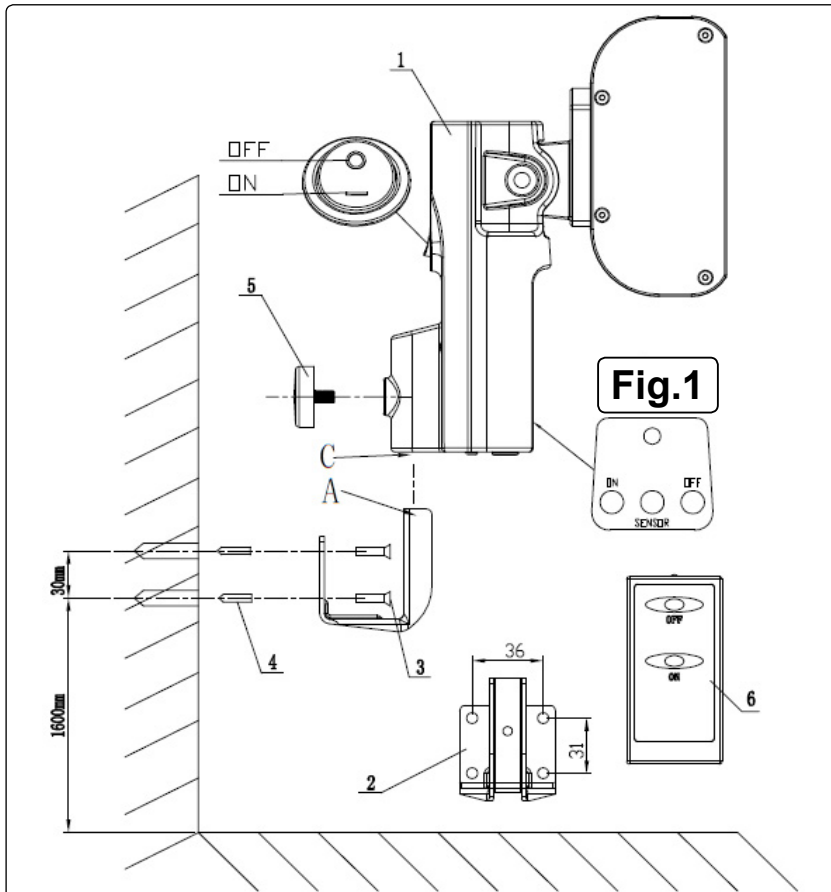

Fig.2
- 7.4. To change the remote control batteries, press down and push back the battery cover (fig.2), remove old batteries and replace with two new AAA batteries.